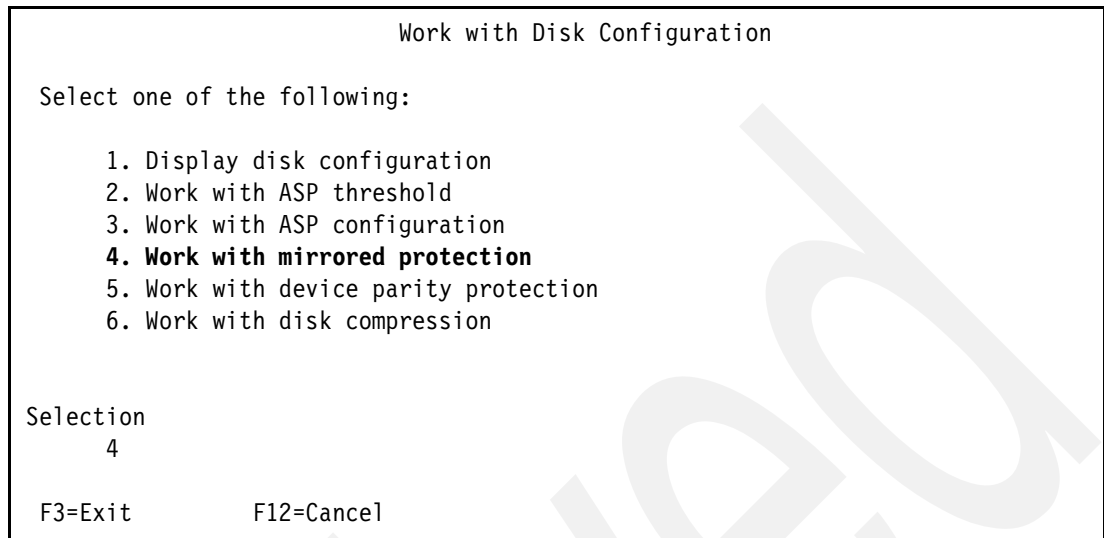

Figure 5-53 Work with Disk Configuration panel
3. From the Work with Disk Configuration menu (Figure 5-53), select **4. Work with mirrored protection**.